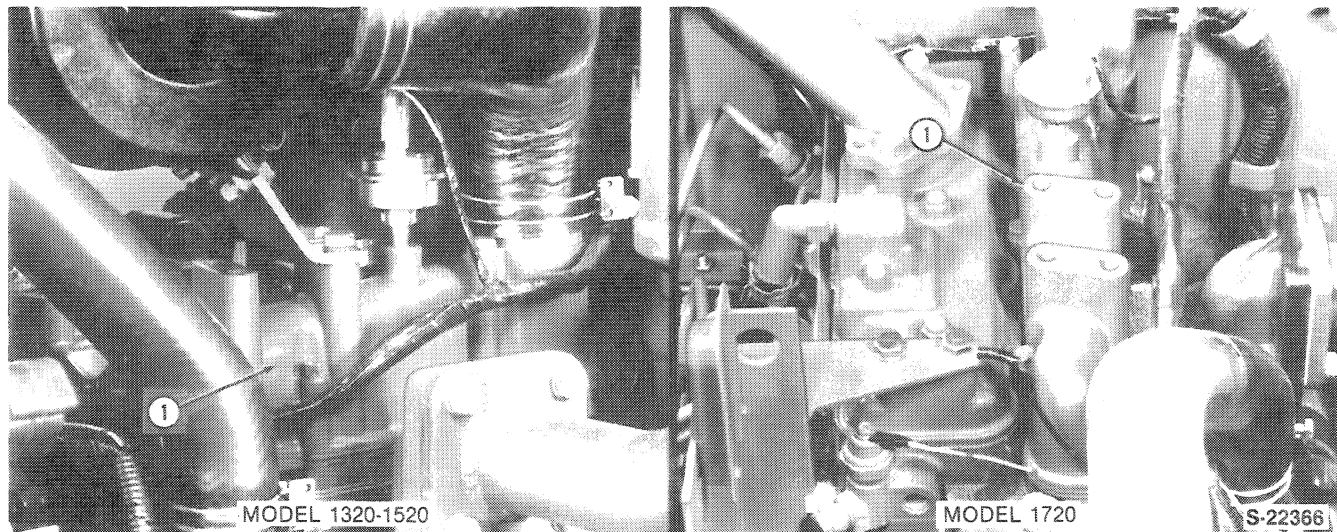

Figure 9
- 13. Remove the air inlet manifold assembly, Figure 9.